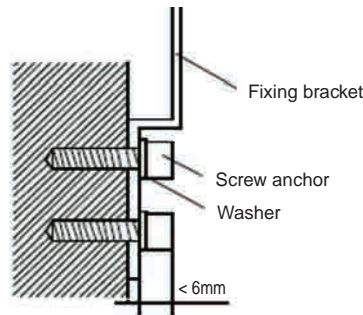

Fig. 3.2.8
1. As it is shown in Fig. 3.2.8, install fixing brackets to wall by using screw anchors.